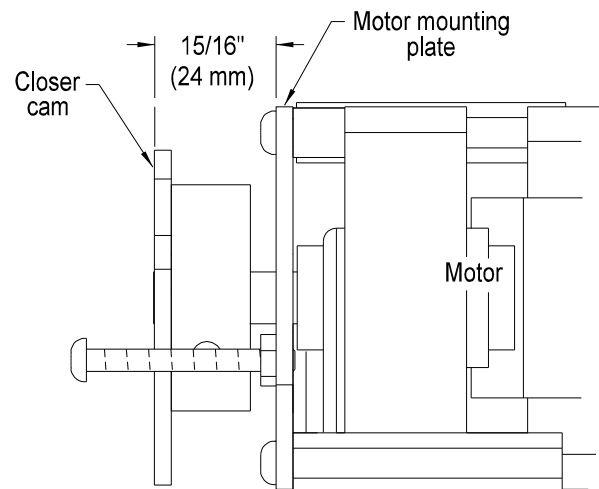

Figure 3.12
4. If the switch cam has been removed, remount it after the cam and hub have been connected. Square up the switch cam to the main cam hub and then tighten into place (Figure 3.12).
1. Set the lateral (side to side) position of the cam assembly so the outside edge of the closer cam measures 15/16" (24mm) from the outside edge of the motor plate (Figure 3.12).